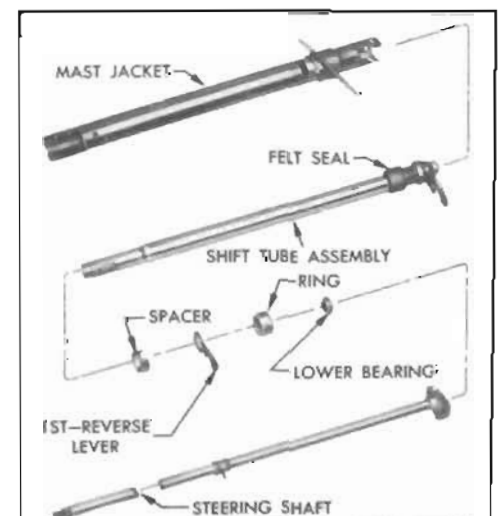

Figure 8-75—Disassembly of Lower Portion of 3 Speed Transmission Mast Jacket
4. Remove two screws securing ring assembly to mast jacket and pull out lower bearing, ring, lever, spacer, shift tube assembly with felt seal, and mast jacket (see Figure 8-75).